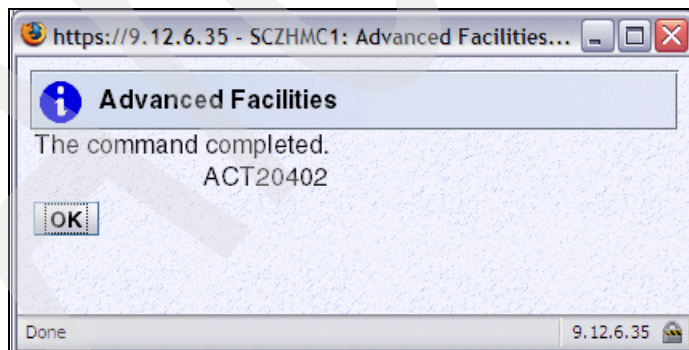

Figure 3-33 HMC - OSA Advanced Facilities (Export completed)
10. The HMC task writes the configuration data for the Channel ID that was selected onto the diskette and displays a message panel when it has completed (Figure 3-33). Click **OK**.
13. The HMC task writes the configuration data for the Channel ID that was selected onto the media device and displays a message panel when it has completed (Figure 3-33). Click **OK**.